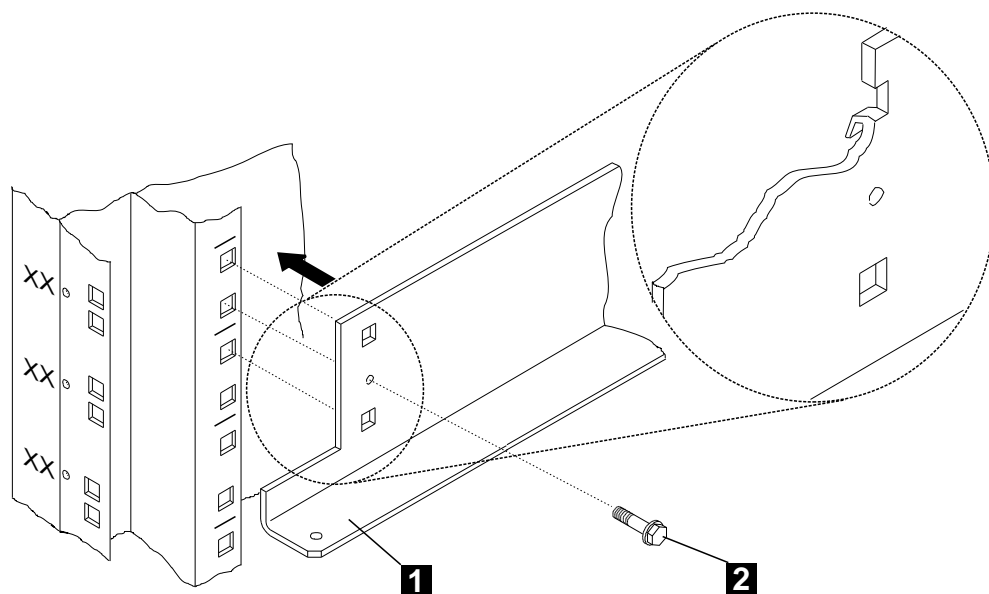

Figure 6. Installing the NNP-A Brackets
- \_\_\_ 3. Install the right and left brackets **1** (PN 58G5752), provided with the FFB/M, in the controller expansion. Then. tighten using the four screws (p/n 2665527 **2** (See Figure 6 on page 11).